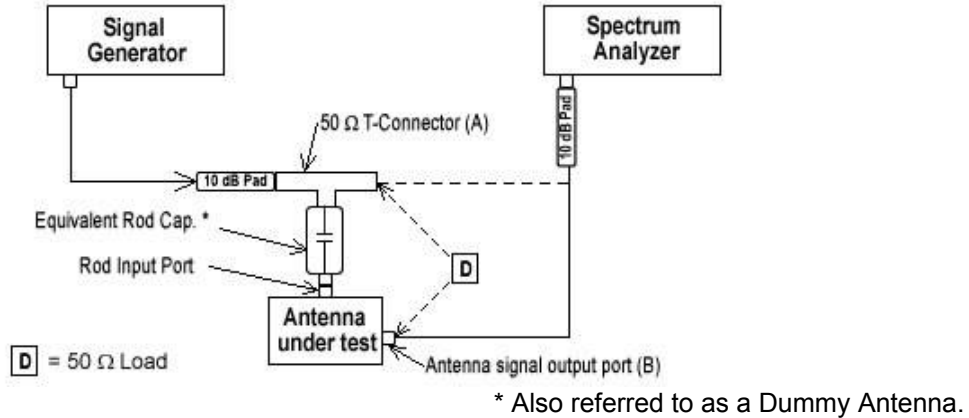

Figure 3
Connect the tracking generator to the spectrum analyzer as shown in Figure 3 and the 50 Ω load connected to the antenna signal output port (B).
Connect the tracking generator cable to the fixture terminated with 50 Ω (A) and connect the spectrum analyzer cable to the signal output port (B) per Figure 3.
The antenna factor for the rod antenna shall be determined by measuring the signal transfer characteristics of the matching device and assuming that the antenna is a short monopole with an infinite ground plane. Set up the monopole to be calibrated and the test equipment per Figure 3. Allow all equipment to warm up for 15 minutes.